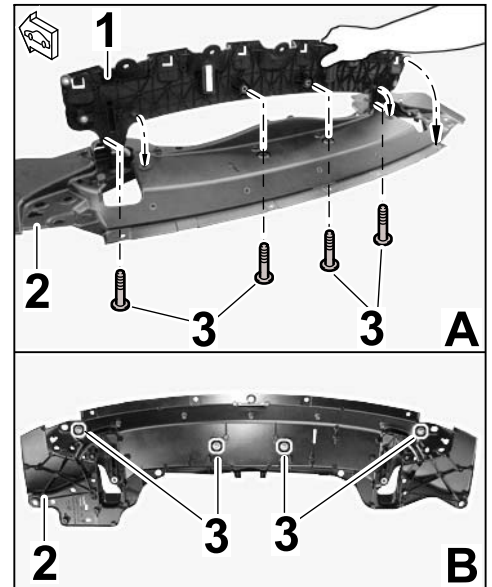

Figure 5
3.1.2 Position mounting adapter on mounting bracket (⇒ *Figure 5 -arrow-*).